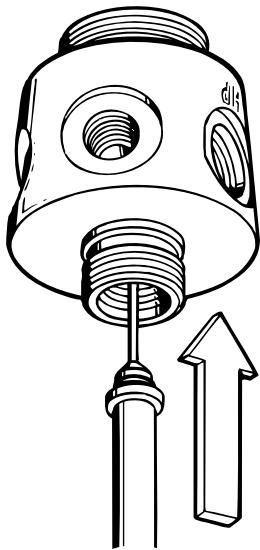

Fig. 6 - Crown installation
2. Install the HP seat(19) into the end of the piston shaft, and check to ensure that it seats completely flush inside the cavity.
3. Lay the piston cap(22) flat with the open end facing up. Mate the head of the piston into the piston cap and press straight down, being careful not to unseat the O-ring.
4. Apply a light film of grease to both ends of the spring(17) and place the spring over the stem of the piston. Set the piston cap with piston and spring aside.
5. Install the crown O-ring(10) onto its grooved sealing surface on the crown(9). Place the crown down over the rod portion of the Seat Installation Tool (P/N 1094-36) with its sealing edge facing up. Insert the tool into the inlet boss of the main body(12), and press the crown firmly into place (see Fig. 6).